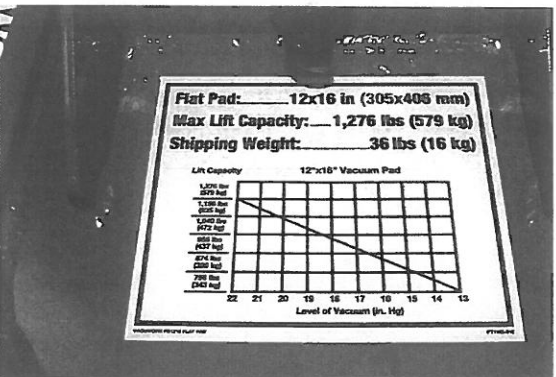
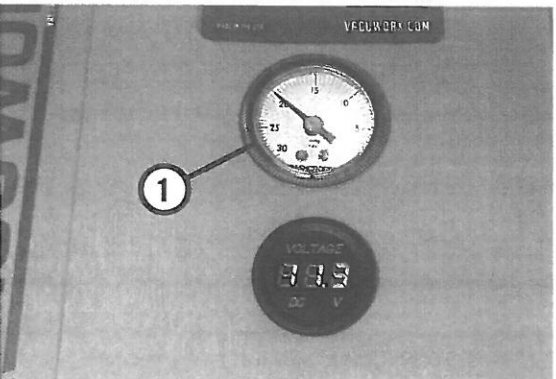

Fig. 1-7
Fig. 1-8
4. Refer to the lift capacity chart on the pad to determine how much vacuum is needed to safely perform the lift (Fig. 1-7). Once the required vacuum level is reached on the vacuum gauge, lift can be performed (Fig. 1-8, 1).